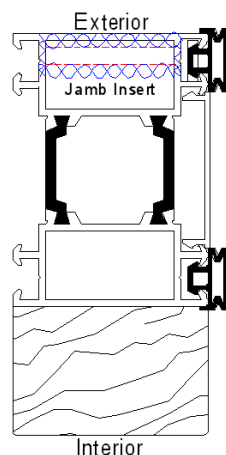

FIG 1.
- Identify the hinge jamb for stacking side and double gasket jamb side as per FIG 1 - 2.